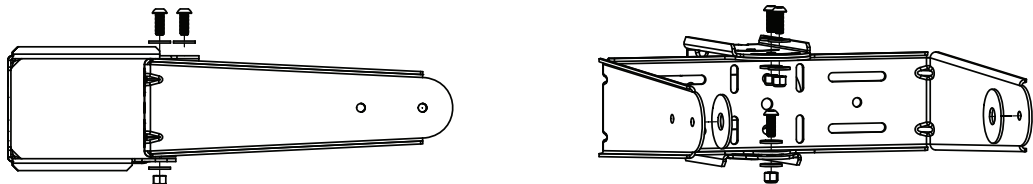

Figure 2-17 Connecting the U Bracket to the Yoke
6. Connect the U bracket to the yoke, as shown in Figure 2-17.